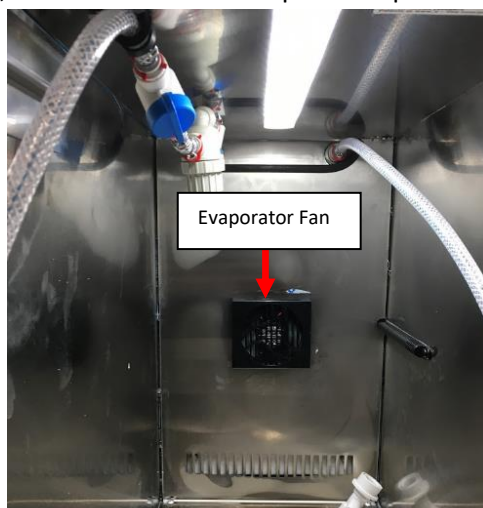

Figure 61: Evaporator Fan Shown.
- a. Verify that the Refrigerator Fan is working and sucking in air. If the fan is blowing air then it is installed incorrectly. **See Figure 61.**